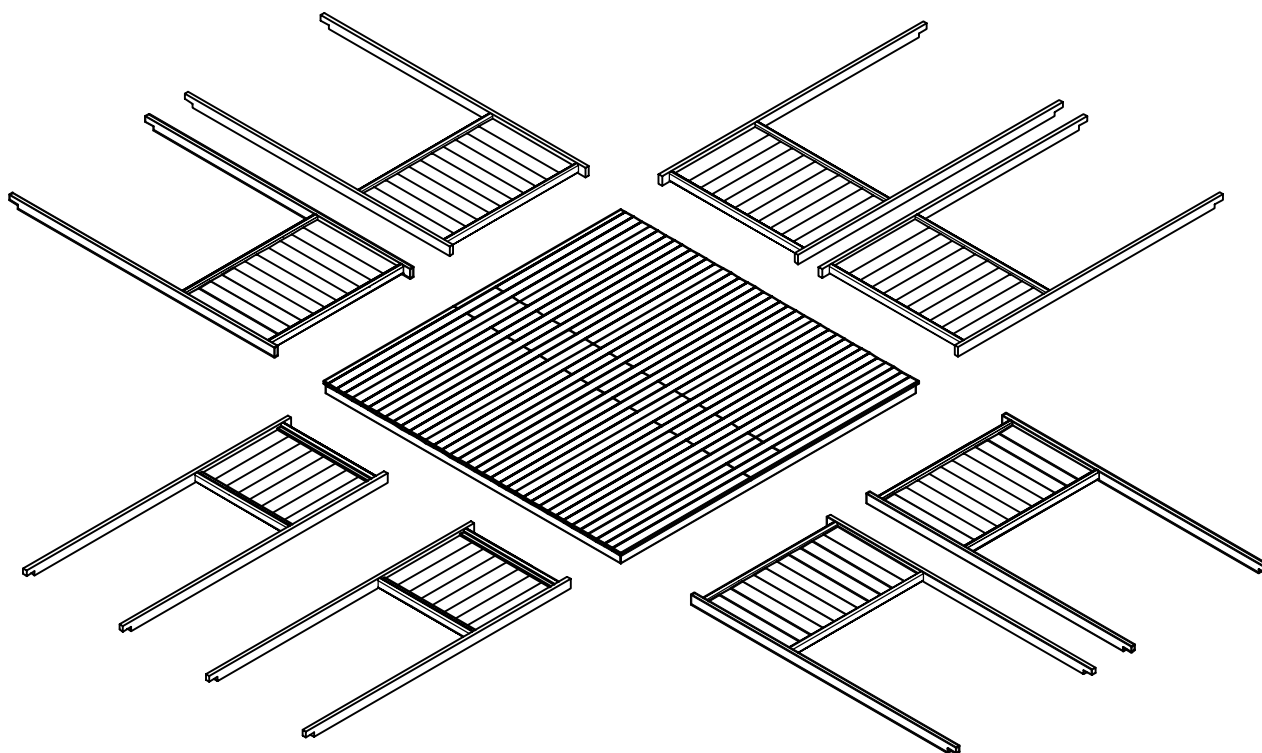

FIGURE S7
● Figure S7 illustrates the completed wall panels that are ready for erection. See the following pages on how to assemble the wall panels together.
- Once these are secured together. Place the posts in its final resting point on the deck. Refer to Figure S7 for clarification. For those that do not have the optional deck, draw a 10'x10' square on the gazebo's final location. The final placement of the corner posts will be on these spots.